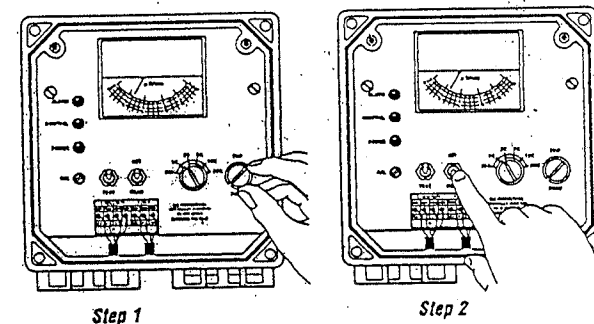

Fig. 8, Trip Point Setting
1) With Set/Read Switch in "Set" position, turn Trip Point Knob to position needle on analog scale to desired trip point (See Fig. 8, Step 1).
2) Return the Set/Read Switch to "Read" (See Fig. 8, Step 2).